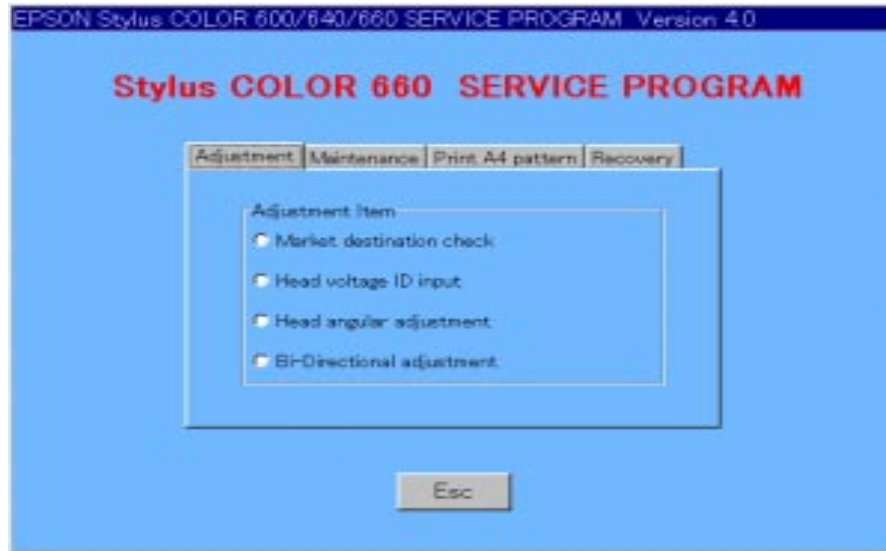

Figure 5-16. Adjustment Menu
2. On Stylus COLOR 660 SERVICE PROGRAM, select Adjustment menu (Figure 5-16).
2. Select “Head angular adjustment” in the adjustment menu (Figure 5-16). The following screen appears.
1. Select "Bi-Directional Adjustment" in the adjustment menu (Figure 5-16). The following screen appears.